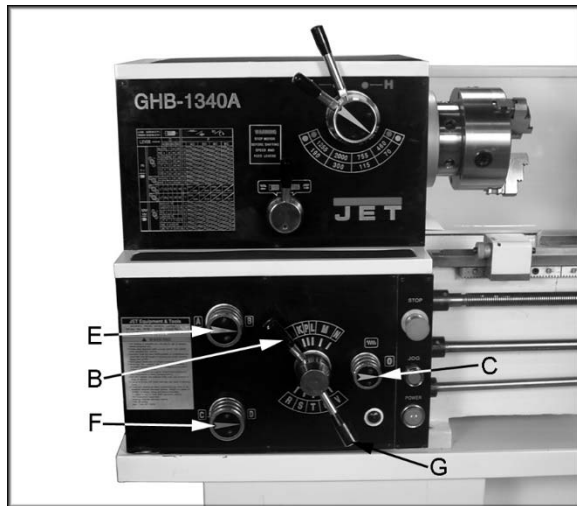

Figure 19
2. Set the selector handle (B, Fig. 19) to the "P" position and turn knob (C, Fig. 19) counter-clockwise so the arrow is pointing up to start the feed rod rotating.
1. Set feed rate selectors (B, E, F, G, Fig. 19) in proper position for the correct feed rate of the thread pitch to be cut.
2. Move knob (C, Fig. 19) to the "0" position to disengage the feed rod.